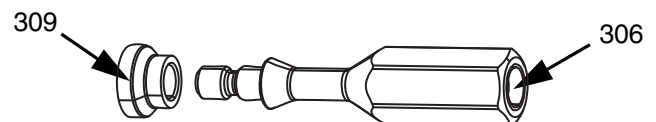

FIG. 12
- a. Apply the supplied blue anaerobic adhesive to the bottom threads of the piston rod (410) threads.
- b. Reinstall the rod adapter (306) and torque to 8-10 in-lbs (0.9-1.1 N•m) using a 6 mm wrench or crowfoot.
- c. Reinstall the Fluid Section (E), and Outlet Block (N).
- d. Slide the seat (307) onto the rod adapter (306).
- e. Slide the tip seat (309) onto the rod adapter (306). Note the orientation of the tip seat and rod adapter in FIG. 12.